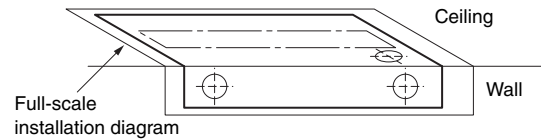

Fig. 3-131
- (1) Place the full-scale diagram (supplied) on the ceiling at the spot where you want to install the indoor unit. Use a pencil to mark the drill holes. (Fig. 3-131).